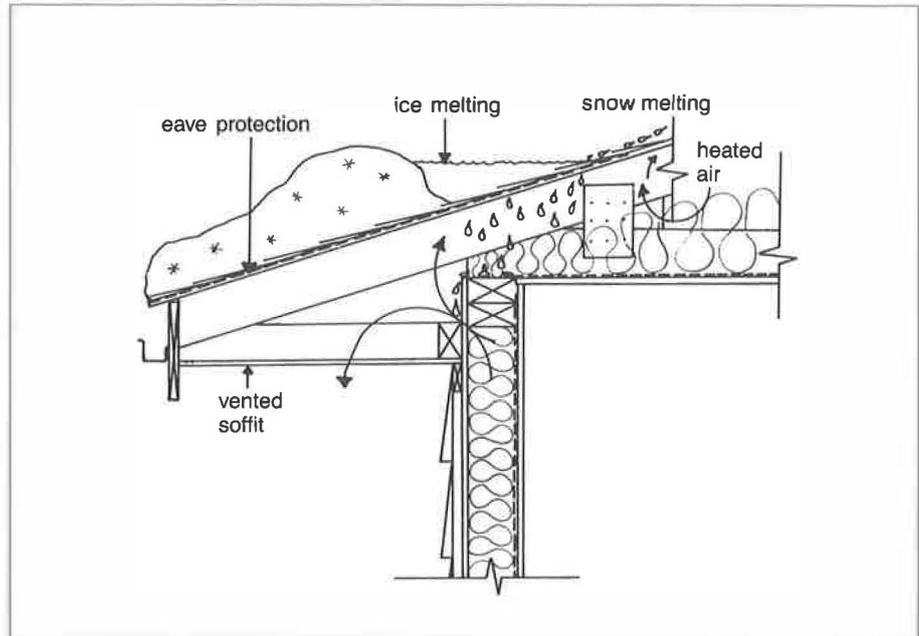

Fig. 18 . Ice damming at edge of roof
- Install eave protection from the fascia extending at least 900 mm (3') up the roof (*fig. 18*).